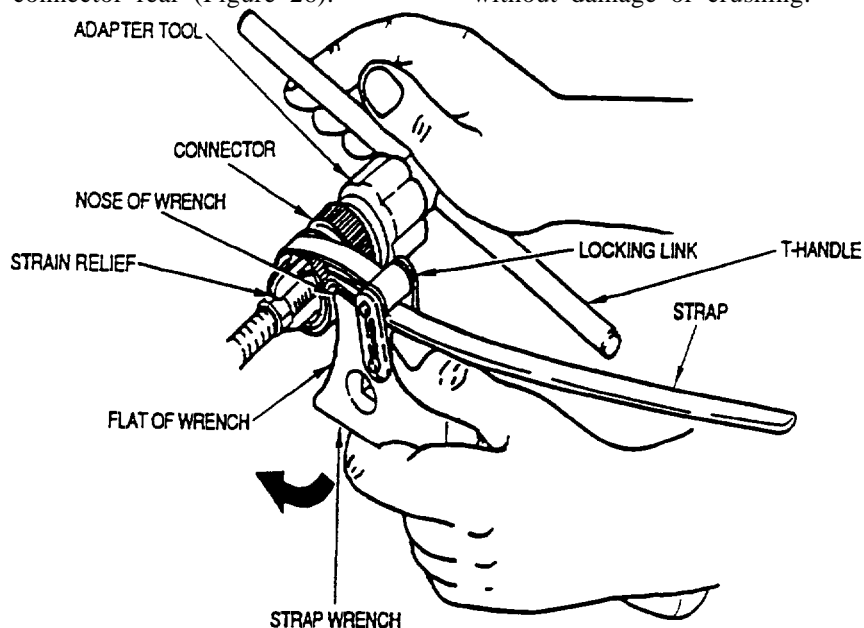

Figure 26. Tightening Position of Wrench
l. To tighten the backshell, apply a clockwise force as viewed from the connector rear (Figure 26).